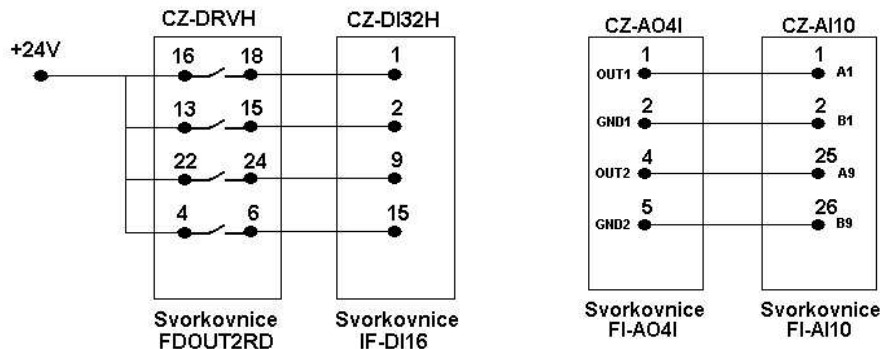

Figure 2 - interconnection of digital and analog IO
Step 3: interconnect inputs and outputs according to Figure 2